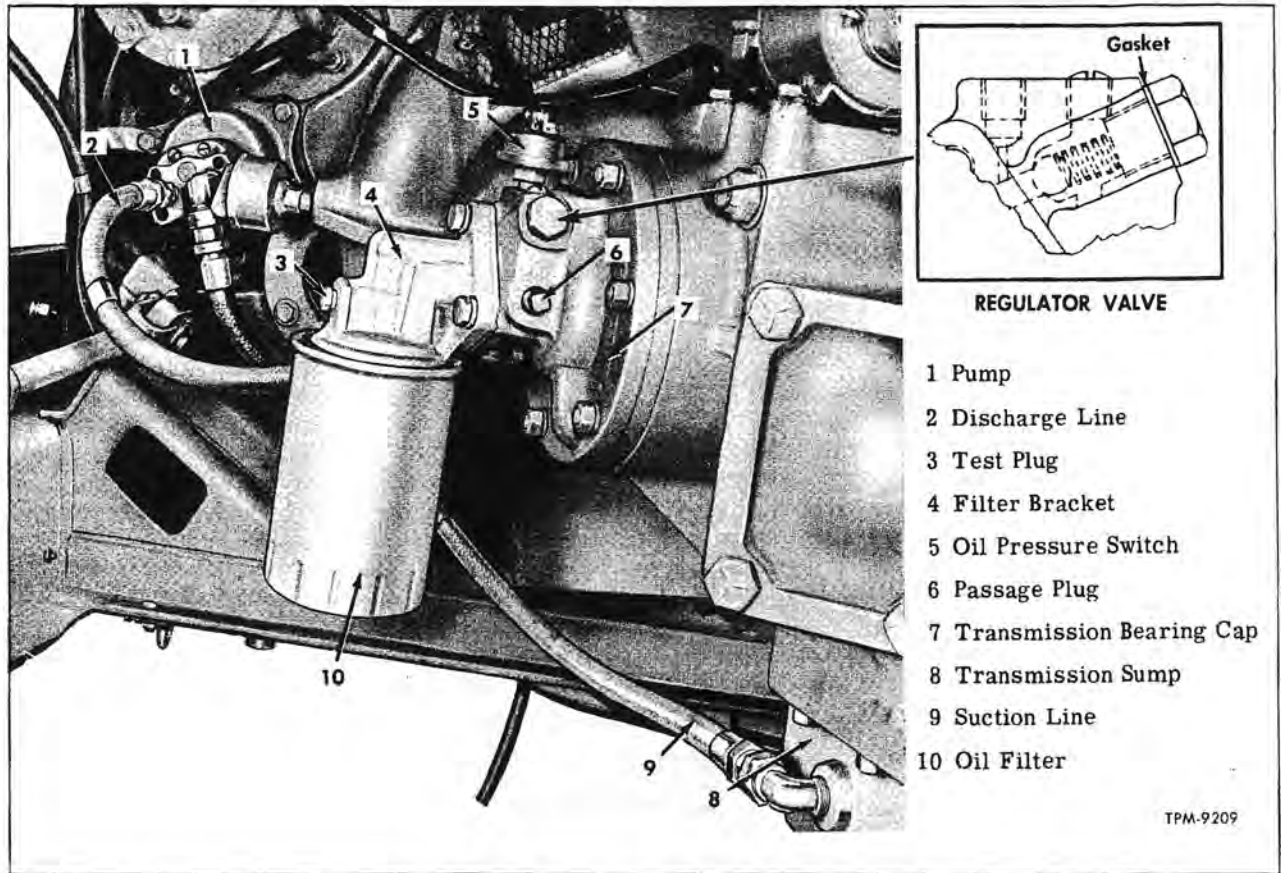

Figure 3—Transmission Oil Filter Lines and Pump
Transmission lubricant is contained in reservoir (sump) on bottom of transmission case. Lubricant is circulated to various points by a gear type pump mounted on engine and connected to transmission by flexible lines (fig. 3).
Drive gear (15) is supported at transmission case by roller bearing assembly (12). Bearing is held in place by retainer (10) which is bolted to transmission case. Seal (11) prevents leakage between retainer and clutch housing (82). Tapered roller bearings are used at outer end of drive gear. Outer bearings are adjustable, and shims (4) are used to provide proper contact between bevel pinion gear and bevel drive gear (83) keyed to shaft which is integral with drive gear (15). Oil tube (88) carries oil supplied by pump (fig. 3) to lubrication passage in drive gear. Passage is shown by dotted lines. Bearing cap assembly (1) incorporates a lubrication pressure relief valve and is machined for mounting lubricating oil filter assembly (fig. 3).
## LUBRICATION SYSTEM (Fig. 3)
Lubricant which lubricates transmission is contained in oil reservoir bolted on bottom of transmission case. The pump (fig. 3), is mounted on and driven by the engine. Oil from reservoir is drawn to pump through suction line, and is discharged through line to oil filter assembly on transmission. Located in bearing cap (7, fig. 3) is a spring-loaded pressure regulator valve which maintains pressure at switch (5, fig. 3) at low engine speed. Lubricant is directed through oil passages to lubricate transmission bearings and gears.
Key numbers in text refer to figure 3.
To check pump pressure, remove test plug (3, fig. 3) and connect pressure gauge. Start engine and operate at 2000 rpm. Note gauge reading which should be 20 to 60 psi if oil is cold, or 10 to 20 psi if oil is warm.
To check pump capacity, disconnect line (2, fig. 3) from fitting at oil filter, then start engine and run at 400 rpm. Oil from disconnected line should fill a one-quart measure in 10 to 12 seconds if pump is in satisfactory condition.
### PUMP REMOVAL (Fig. 3)